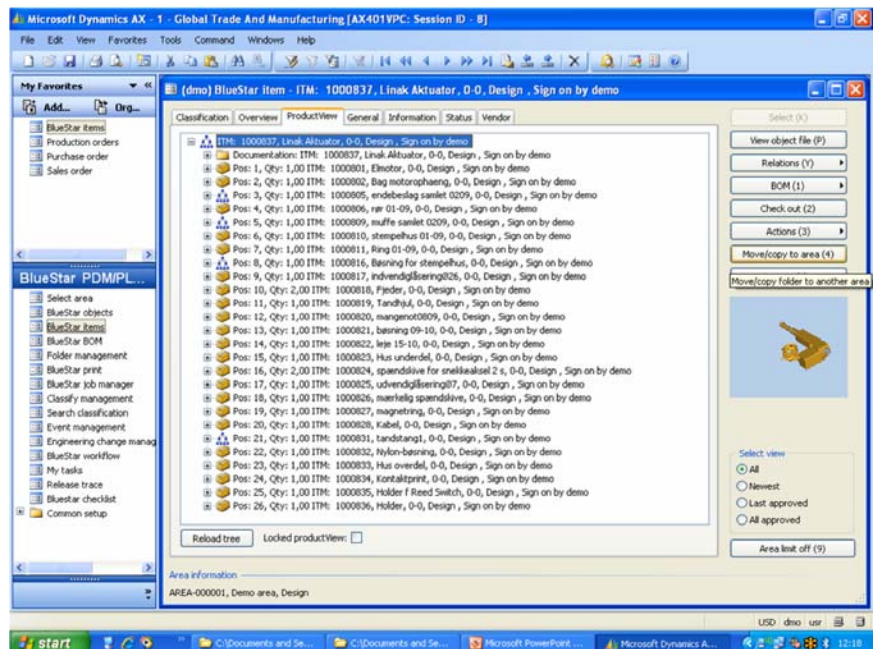

Figure 2—A BlueStar Product View Displayed
- **Product structure browser** for the product structure information like BOM and Item information and links to documents and data. (A product view is shown in Figure 2.)